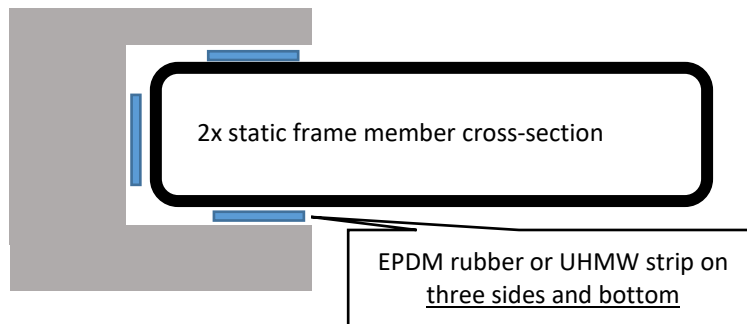

Figure 3. Isolation material placement between the static frame and the slot (plan view)
Step 4. Install material to isolate the gate frame from the slot and minimize damage to the galvanizing coating as shown in Figure 3.